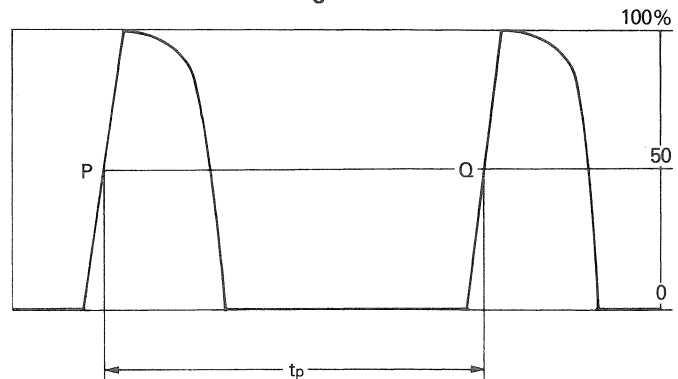

Fig. 9
- a) Proceed in the same way with the " t_w " measurement, and dual pulse waves are formed on the screen. Refer to Fig. 9.
- b) The width of " t_p " is read out and the repetition period is calculated from formula (3).